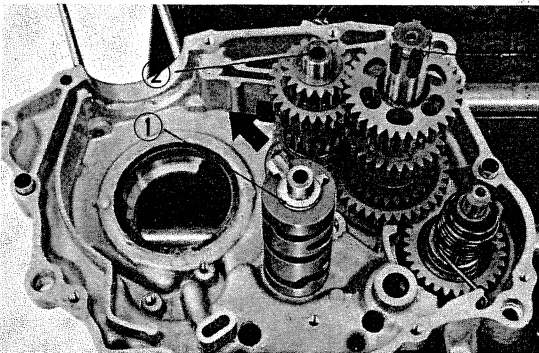

Fig. 93 Direction of drum installation
3) Subassemble the main shaft and counter-shaft, and then assemble the subassembly into the case. (Fig.93)